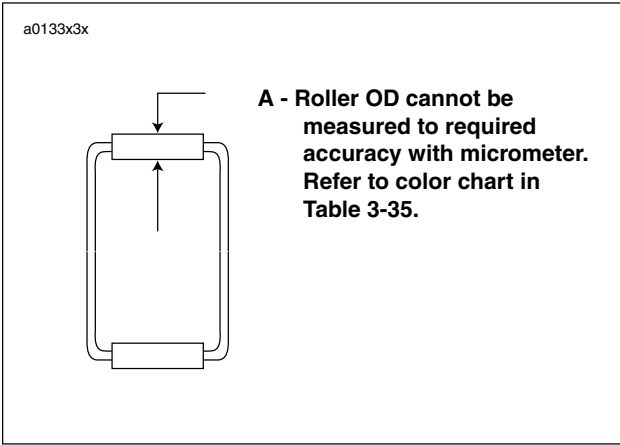

Figure 3-120. Bearing Identification
16. See Figure 3-120. Pinion bearings are identified as shown.